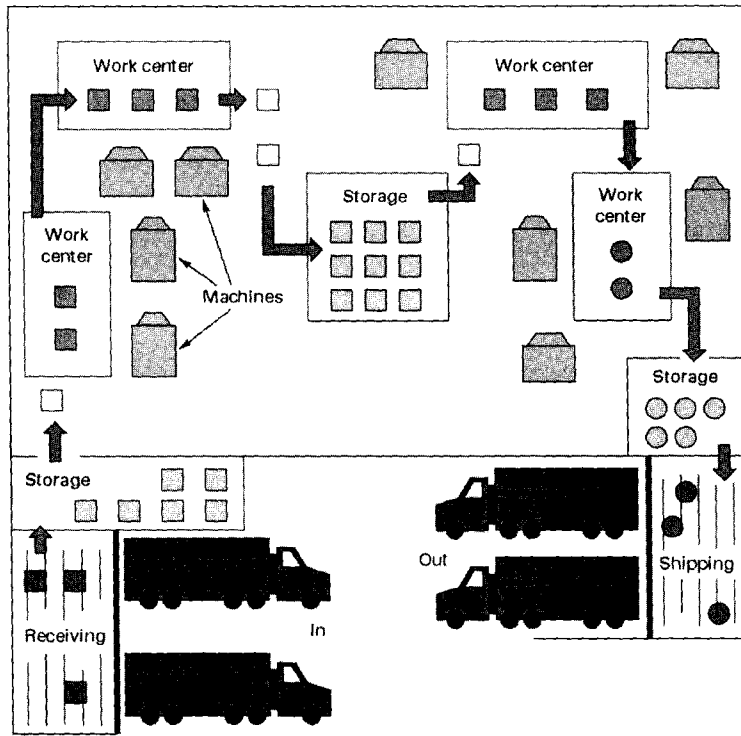

Figure. 3
10. From Figure. 3, what are the activities of material handling system? List all of them and explain in detail.